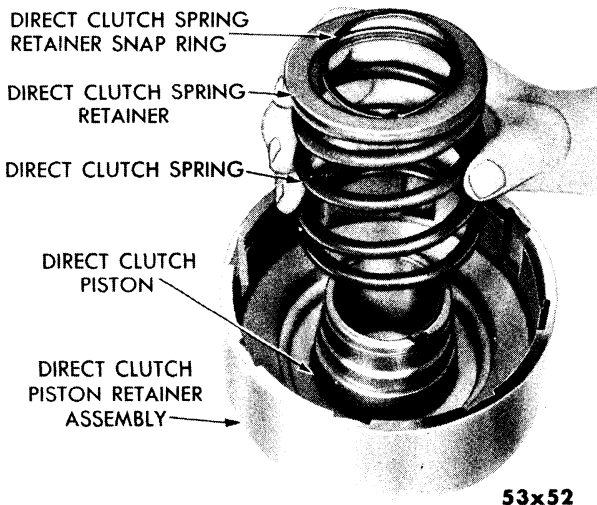

Fig. 88—Removal and Installation of Direct Clutch Spring, Retainer and Snap Ring
- (7) Release Tool C-3302, and remove the direct clutch spring retainer snap ring, spring retainer, and spring from the direct clutch spring retainer. (Fig. 88.)